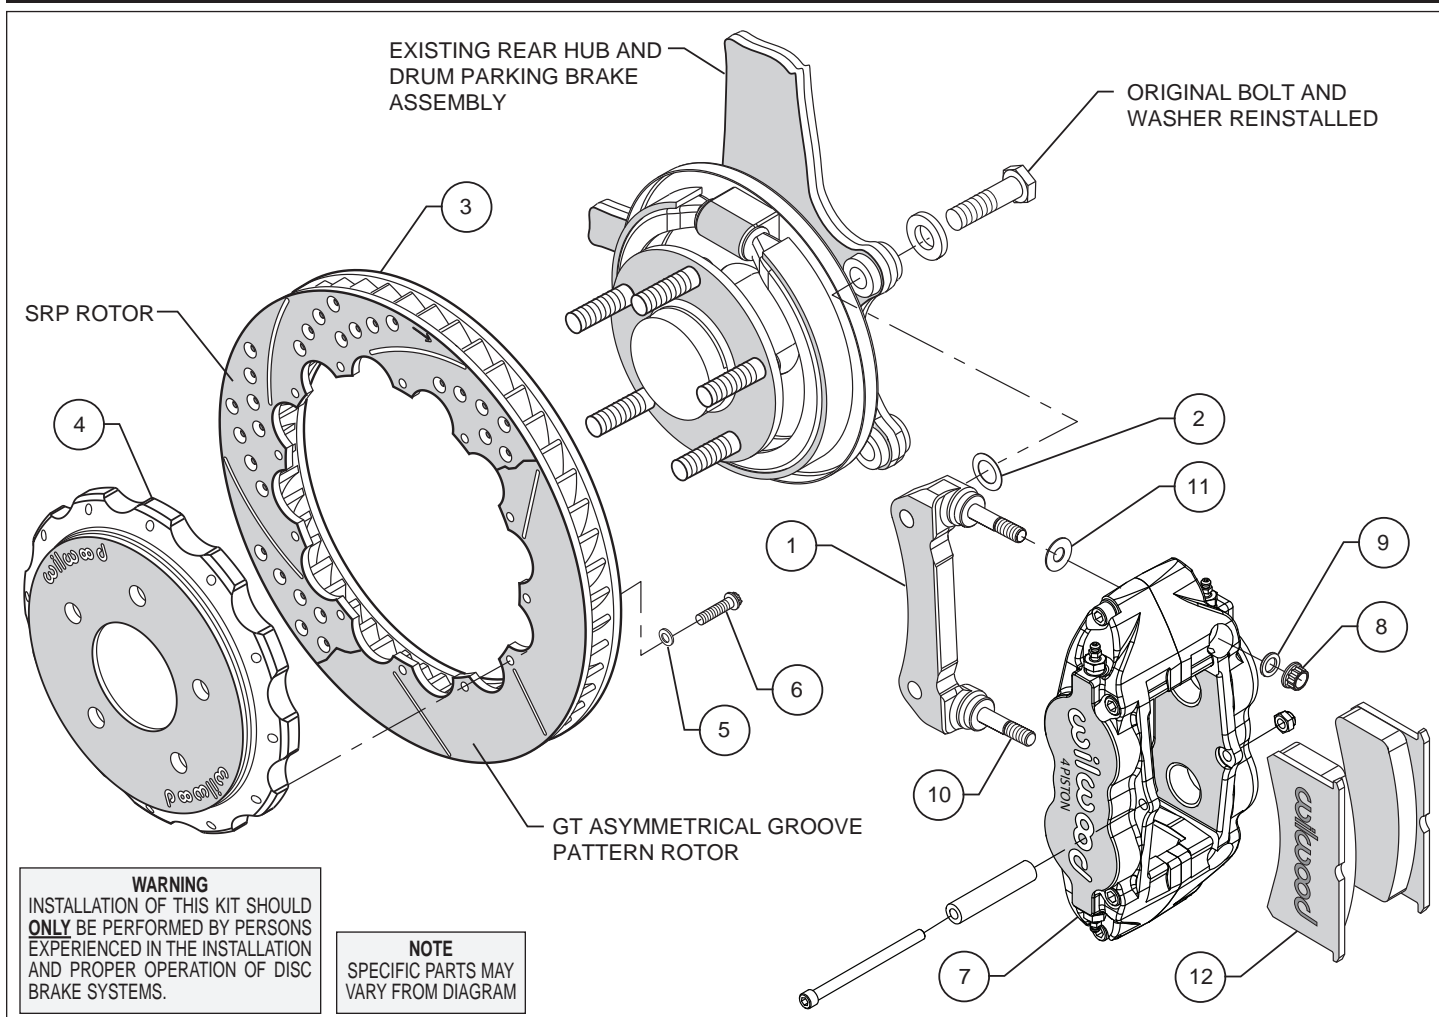
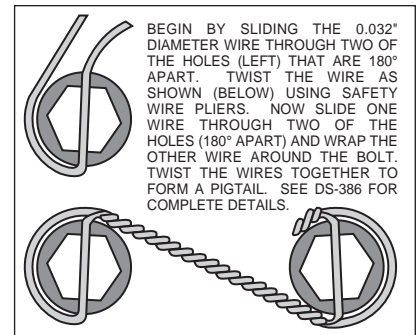

Figure 1. Typical Installation Configuration
Figure 3. Safety Wire Diagram
- Assemble the rotor (3) to the hat (4) with the bolts (6) and washers (5) as indicated in the configuration pictured in Figure 1. Using an alternating sequence, apply red *Loctite*® 271 to the threads and torque bolts to 155 **in-lb**. For an added measure of security, the bolts may be safety wired using standard 0.032 inch diameter stainless steel safety wire as shown in Figure 3. Please refer to Wilwood's data sheet DS-386 (available at [www.wilwood.com/Pdf/DataSheets/ds386.pdf](http://www.wilwood.com/Pdf/DataSheets/ds386.pdf)) for complete safety wire installation instructions.